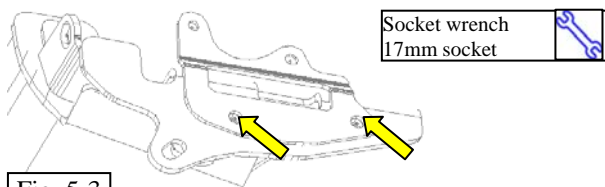

Fig. 5-3
- (c) Fasten hitch to RH side bracket (2 places) using M12 bolts (Fig. 5-3)